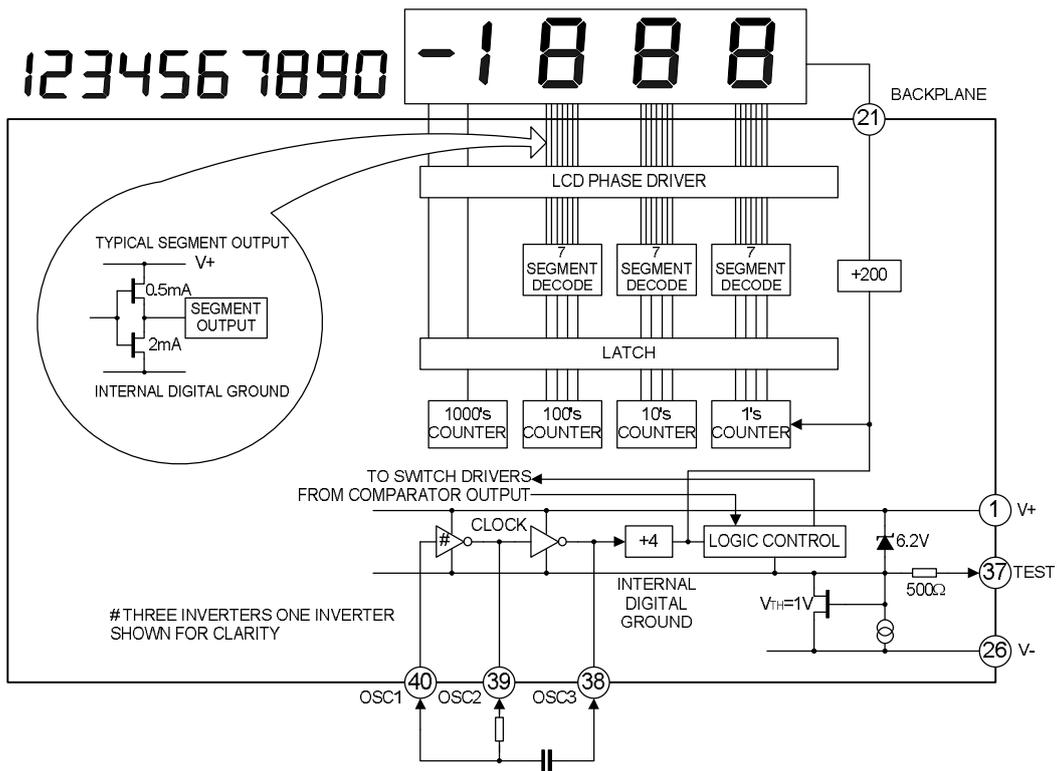

FIGURE 7. SC7106 DIGITAL SECTION
Figures 7 and 8 show the digital section for the SC7106 and SC7107, respectively. In the SC7106, an internal digital ground is generated from a 6V Zener diode and a large P-Channel source follower. This supply is made stiff to absorb the relative large capacitive currents when the back plane (BP) voltage is switched. The BP frequency is the clock frequency divided by 800. For three readings/sec., this is a 60Hz square wave with a nominal amplitude of 5V. The segments are driven at the same frequency and amplitude and are in phase with BP when OFF, but out of phase when ON. In all cases negligible DC voltage exists across the segments.